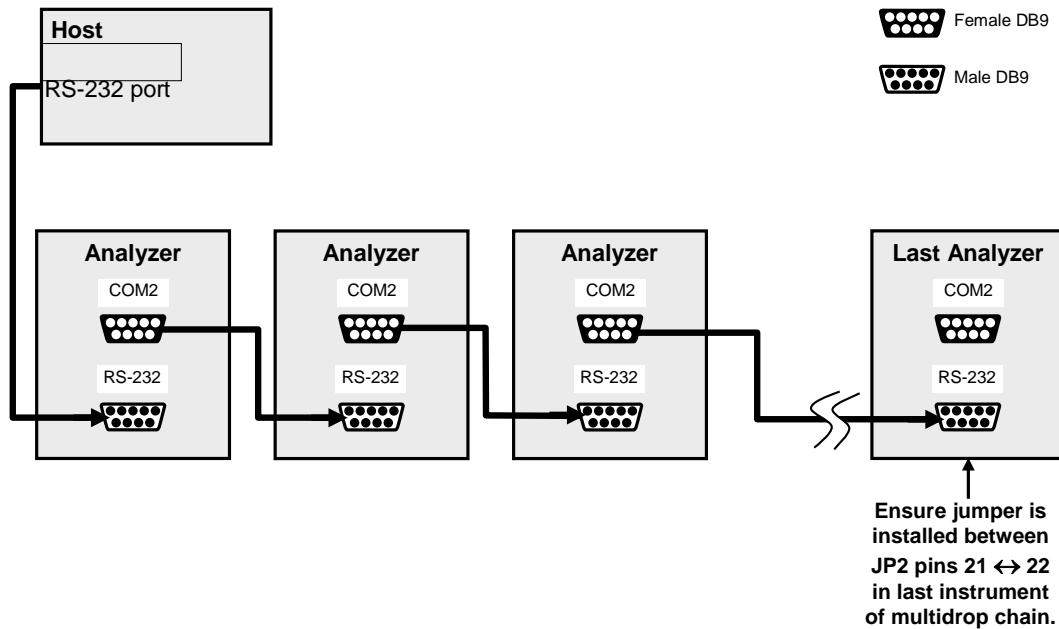

Figure 4-10.Multidrop PCA Host/Analyzer Interconnect Diagram
5. Referring to Figure 4-10 use straight-through DB9 male → DB9 female cables to interconnect the host RS232 port to the first analyzer's RS232 port; then from the first analyzer's COM2 port to the second analyzer's RS232 port; from the second analyzer's COM2 port to the third analyzer's RS232 port, etc., connecting in this fashion up to eight analyzers, subject to the distance limitations of the RS-232 standard.